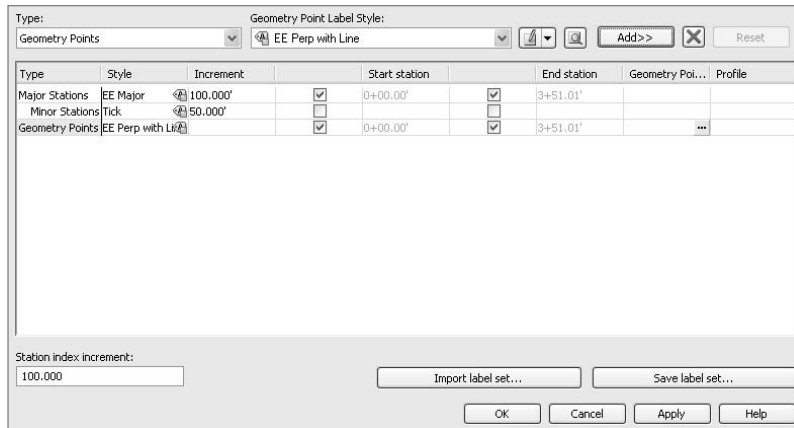

Figure 8.13
3. Right-click and select `Edit Alignment Labels` from the pop-up menu to display the `Alignment Labels` dialog in Figure 8.13.
9. This dialog lets you apply different label styles to different geometry point types if desired. Leave them all turned on for now and click OK to dismiss the dialog. Your Alignment Labels dialog should look like Figure 8.13 now.